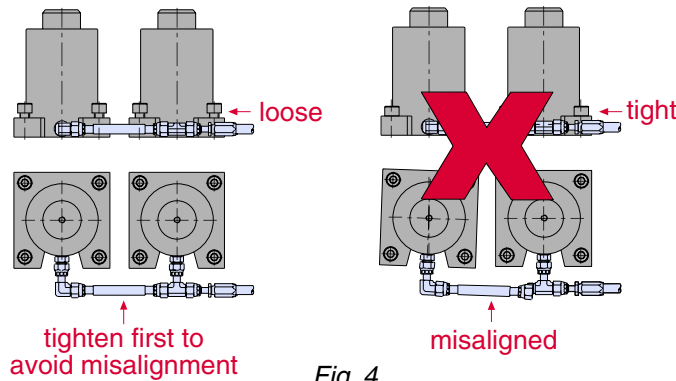

Fig. 4
8. When using solid fittings tighten fittings before bolting cylinders down, see Fig. 4.